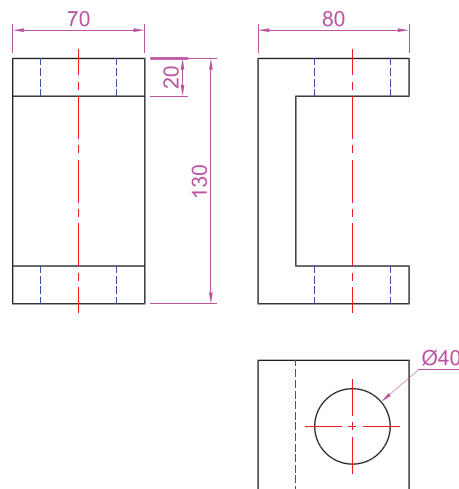
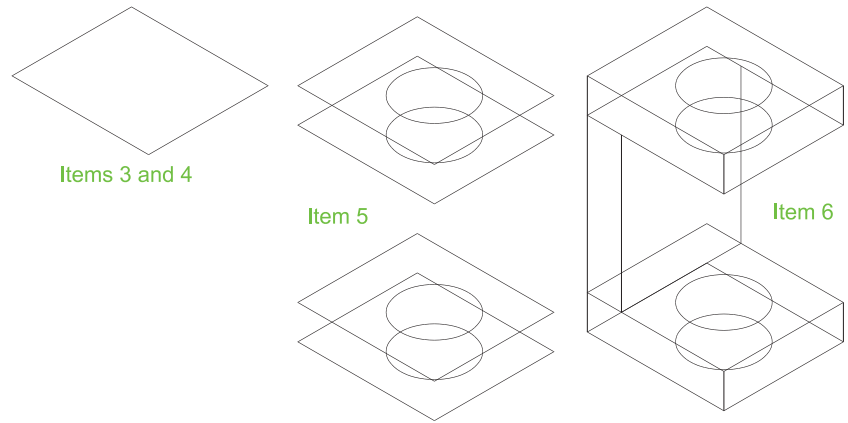

Fig. 7.18 First example – isometric drawing – the model
Fig. 7.19 First example – isometric drawing – items 3, 4, 5 and 6
1. Working to the shapes and sizes given in the orthographic projection in Fig. 7.18, set **Snap** on (press the **F9** function key) and **Grid** on (**F7**).
3. With **Line**, construct the outline of the top of the model (Fig. 7.19) working to the dimensions given in Fig. 7.18.
6. Add lines as shown in Fig. 7.19.